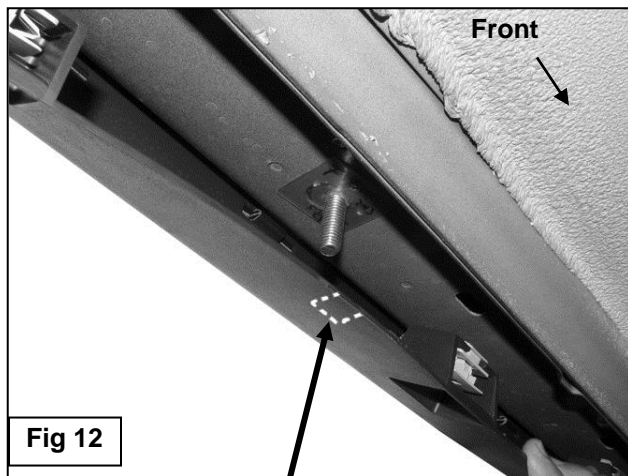

Fig 12
6. Select the driver side center Bracket, **(Fig. 11A)**. Insert the Center Bracket into the approximate position, **(Fig. 11B)**. Mark the Bracket location on the bottom edge of the plastic cover, **(Fig. 12)**. Cut a small slot in the bottom edge of the cover to clear the Bracket. Bolt the Bracket to the Bolt Plate with (1) 10mm Flat Washer, (1) 10mm Lock Washer and (1) 10mm Hex Nut, **(Fig. 13)**. Do not tighten hardware at this time.